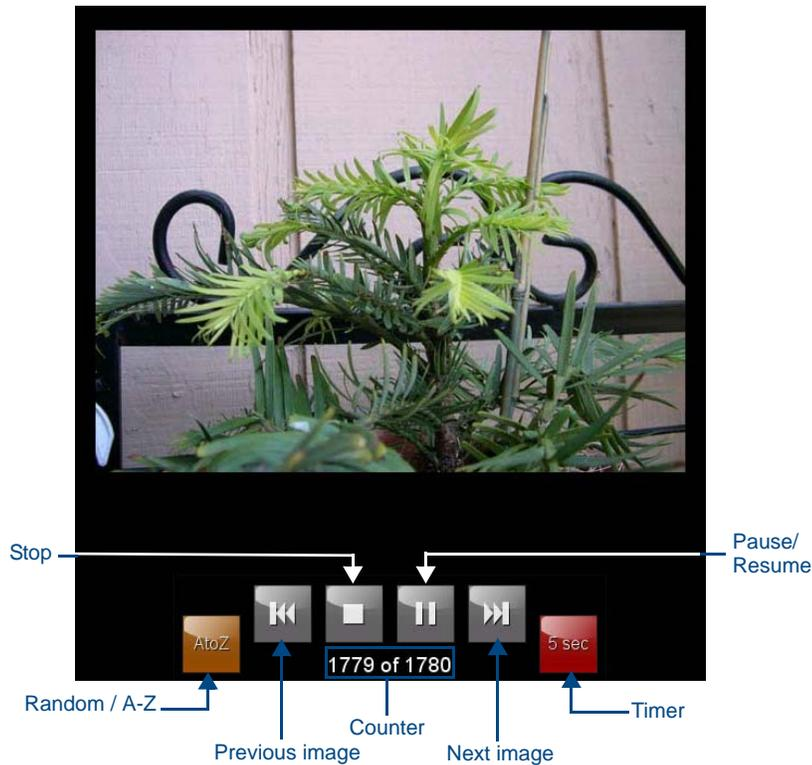

FIG. 5 Picture View Configuration Popup Menu
2. When the images begin to display, touch any place on the touchscreen to open the configuration popup menu (FIG. 5). If no selection is made, this menu will remain in place for 15 seconds and then disappear. It may be accessed again by touching anywhere on the touchscreen.